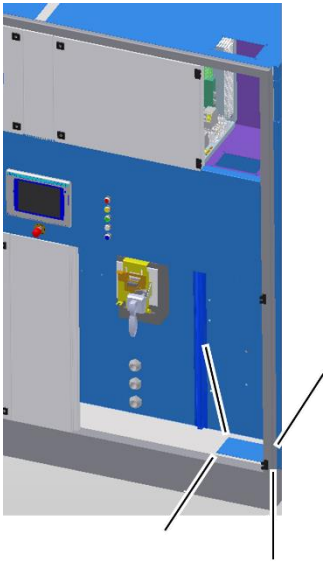

Fig. 52: Cable entry plate
2. Remove the base cable entry plate on both sides (Fig. 52)